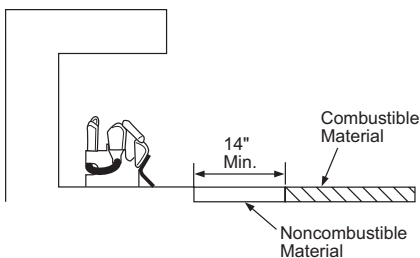

Figure 8 - Minimum Fireplace Clearances if Installed at Floor Level
- A. If installing appliance on the floor level, you must maintain the minimum distance of 14" to combustibles (see Figure 8).